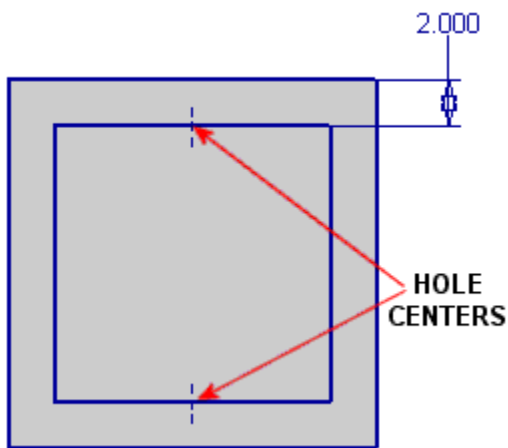

Figure 23: Punch placement sketch.
4. From the Sketch panel bar, click the Offset tool . Click the outer edge of the face and offset the loop to the inside. Add a 2-inch dimension between the two loops as shown in Figure 23.
Place hole centers at the midpoints of the horizontal lines as shown in Figure 23.